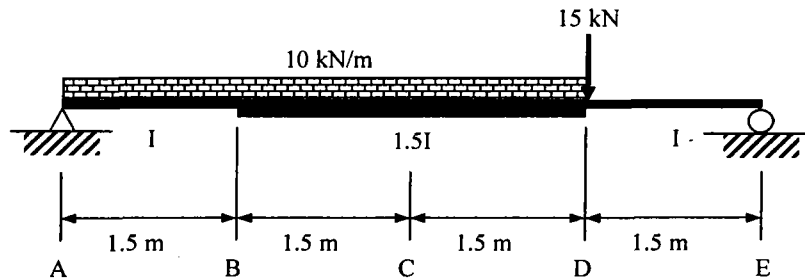

Figure 1 / Rajah 1
- (b) Figure 1 shows a simply supported beam carrying uniformly distributed load of 10kN/m from A to D and a concentrated load of 15kN at D. The moment of inertia of the center portion BD of the beam is  $1.5I$ , whereas the end segments AB and DE have a moment of inertia  $I$ . Determine the slope and displacement at point B using **method of virtual work**. Given  $I = 90 \times 10^6 \text{ mm}^4$  and  $E = 200 \text{ GPa}$ .